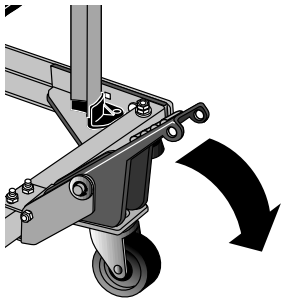

FIG. 10A
- To move your saw, depress the foot pedal to engage the castor assembly (Fig. 10A). Saw can now be easily be moved to a new location.